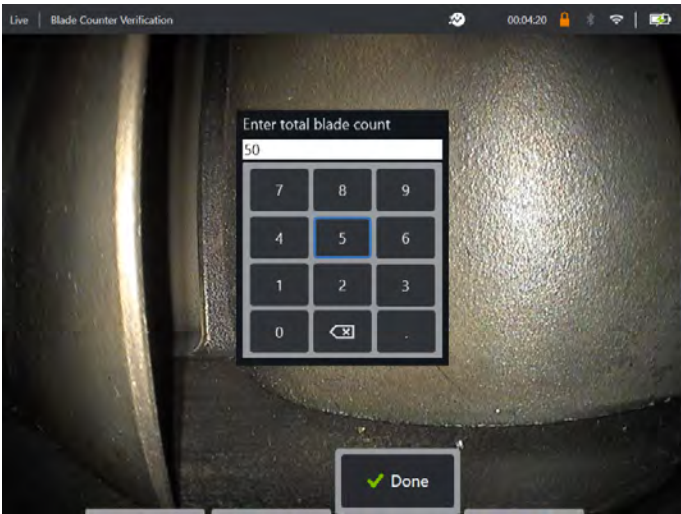

Figure 8a. 'Enter total blade count' prompt
- Enter the total number of blades in that stage. This function enables the counter to return to blade number 1 at the appropriate point to ensure a complete revolution had been performed (Figure 8a). Maximum limit is 999 blades.
Press 'Done' softkey to launch Blade number textbox on screen (Figure 8a).